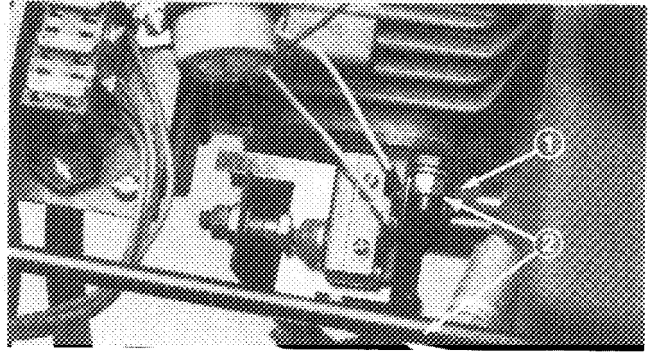

Figure 43
- Loosen two locknut securing pump plate so plate is free to move (Fig. 43).
- Start engine and rotate pump plate (Fig. 43) in either direction until wheel ceases rotation.
- Stop engine and tighten locknuts to secure pump plate (Fig. 43).